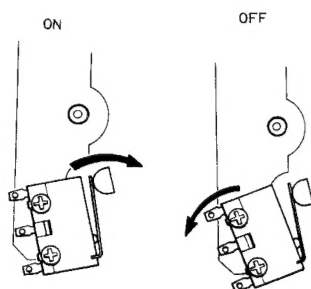

Fig. 23
- 1) Rotate the micro switch to the right and when the switch is in the ON position, rotate the microswitch back to the left. Temporarily fix it at the position where it goes off. (See figure 23)